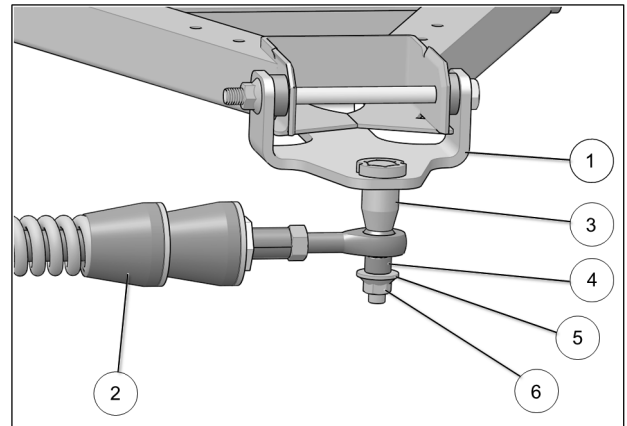

Fig. 11
10. Attach stabilizing rod (2) to anchor bracket (1), using the long spacer bushing (3), short spacer bushing (4), flat washer (5) and nut (6). Torque to $70 \text{ N}\cdot\text{m}$ [$52 \text{ lb}\cdot\text{ft}$]. See Fig. 11